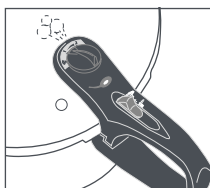
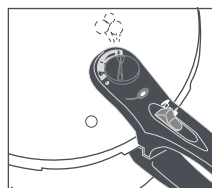
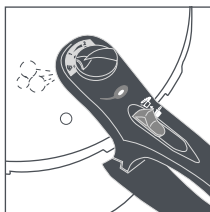
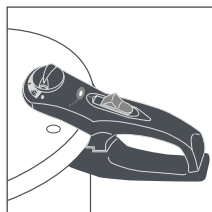

Fig. 3
Fig. 4
Fig. 5
Fig. 6
(positions 1 and 2). At position 1 (Fig. 3), the pressure regulator valve (3) works at 60 kPa (fast cooking) and at position 2 (Fig. 4) it works at 100 kPa (super-fast cooking). When the pressure cooker reaches the selected pressure level, you will need to reduce the heat source to a medium-low power to allow it to keep the pressure stable. The pressure regulator valve (3) also has a position for quick release of steam (Fig. 5) and another position for extraction of the valve itself Φ (Fig. 6). You will notice that the pressure regulator valve (3) does not turn as easily to the extraction position Φ as it does to the other positions.